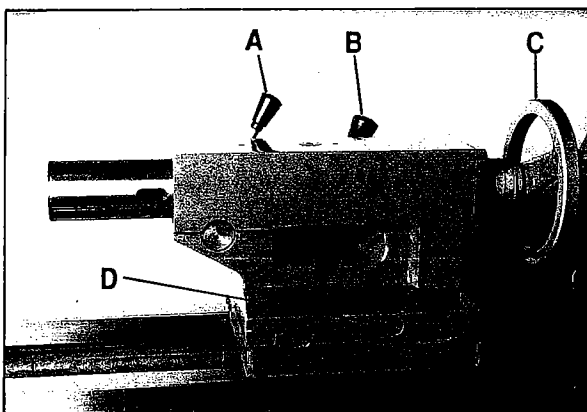

Fig. 19
15. **Tailstock Quill Clamping Lever** (A, Fig. 19) - located on the tailstock. Lift up to lock the spindle. Push down to unlock.
16. **Tailstock Clamping Lever** (B, Fig. 19) - located on the tailstock. Lift up lever to lock. Push down lever to unlock.
17. **Tailstock Quill Traverse Handwheel** (C, Fig. 19) - located on the tailstock. Rotate clockwise to advance the quill. Rotate counter-clockwise to retract the quill.
18. **Tailstock Off-Set Adjustment** (D, Fig. 19) - two hex socket cap screws located on the tailstock base are used to off-set the tailstock for cutting tapers. Loosening one screw while tightening the other off sets the tailstock. Tailstock lock handle must not be clamped down when adjusting.